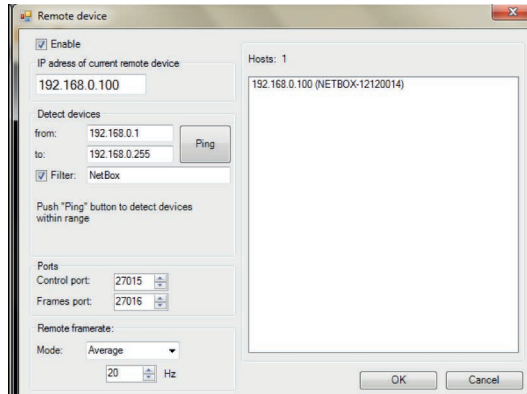

Fig. 17 Search for network devices in TIM Connect
- ➔ In the window which is appearing, see Fig. 17, you should set a hook on `Enable` and enter the IP address of thermoIMAGER TIM NetPCQ (192.168.0.100) at IP address of current remote device.
Under Remote framerate, see Fig. 17, you can enter the desired frame rate which should be transmitted via the network.